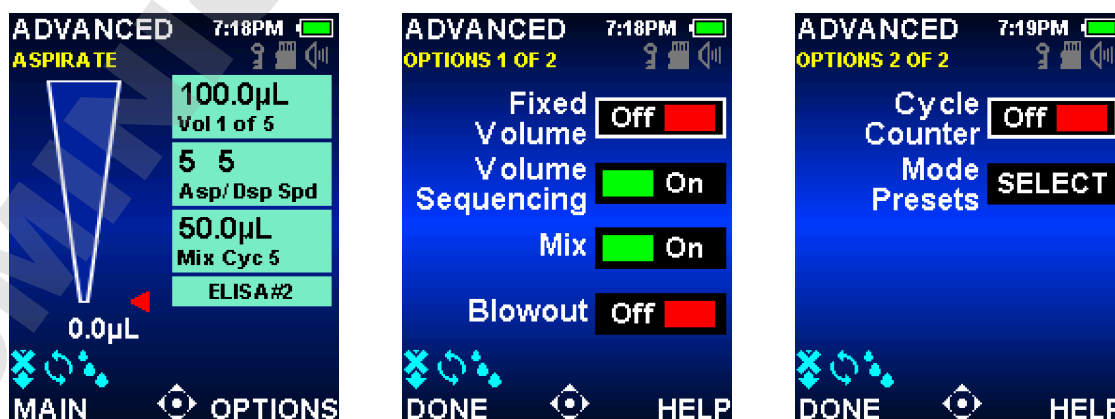

Figure 15: Options in Advanced Mode: **OPTIONS** Soft Key in Operating Screen (left), Options 1 of 2 (center) and Options 2 of 2 (right)
1. **OPTIONS** to access the Options screen (Figure 15 left).
2. ▲ or ▼ to navigate between and highlight an option. When more than one page of options is available, **Options 1 of X** is displayed in the upper left corner of the screen. To navigate between pages, ▲ or ▼ at the first or last option on a page. (Figure 15 center and right).